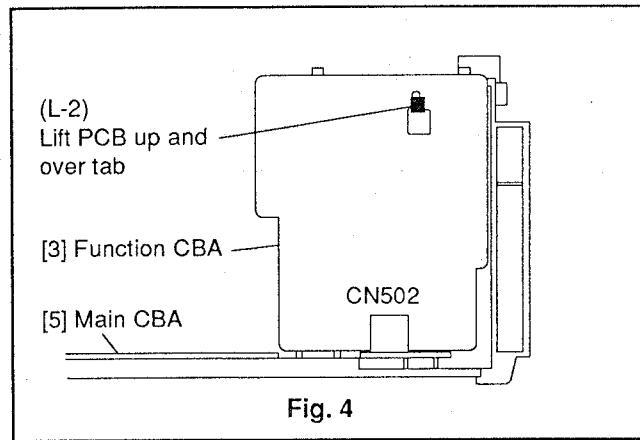

Fig. 4
- Disconnect Connector (CN5501) to remove Function CBA. Hold Main CBA while pulling up Function CBA. (Fig. 4)